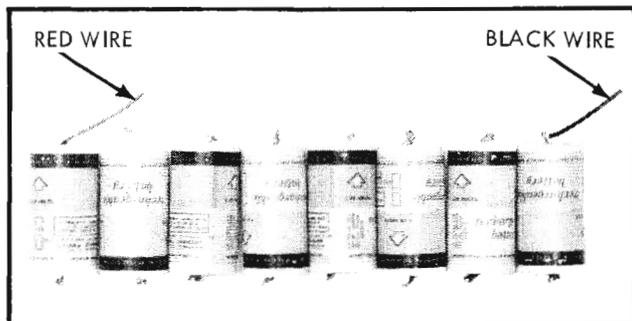

Figure 4-2. BATTERY POLARITY CONNECTIONS
- d. Remove the battery pack from the Model 845AB and replace the defective batteries observing the connections and polarities as illustrated in Figure 4-2.